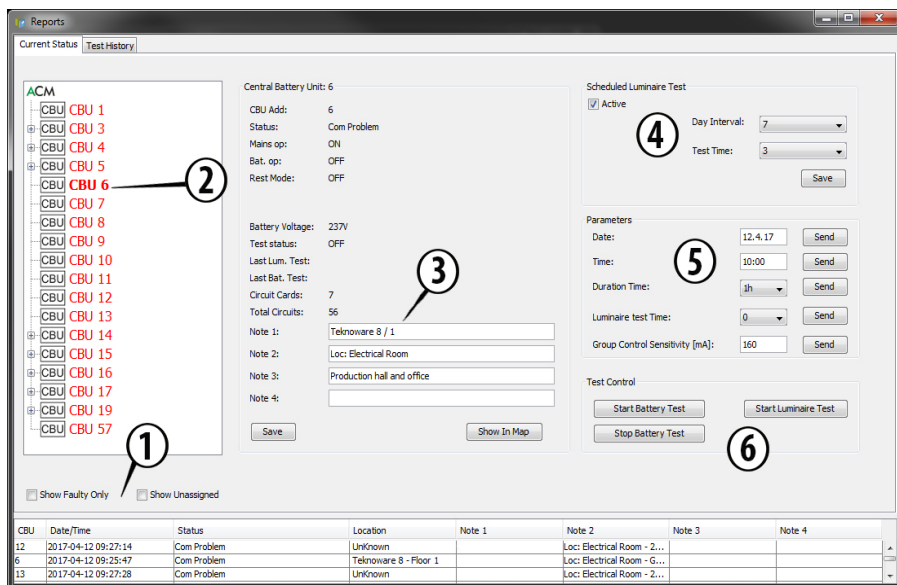

Figure 5. Reports Window - Current Status - CBUs
- You can now filter the CBU list (No. 2 in Figure 5) to show only the faulty CBUs, or to include the unassigned CBUs by checkin the corresponding boxes (No. 1 in the Figure 5).
4. You can now add Notes for the selected CBU, by simply typing in the notes, and clicking the SAVE button (No. **3** in the Figure 5).
5. To set a schedule for the luminaire tests, check the Active box in the Scheduled Luminaire Test options (No. **4** in the Figure 5). Then, select how often the tests are to be run by choosing a Day Interval from the drop down menu (e.g. choosing 7 means the tests are run once a week, choosing 1 means the tests are run daily). Then choose a time from 1 (= 1AM) to 23 (= 11PM) when the tests are run from the Test Time drop down list.
6. To change CBU parameters, simply change the parameter from the Parameters options (No. **5** in the Figure 5) and click SEND.